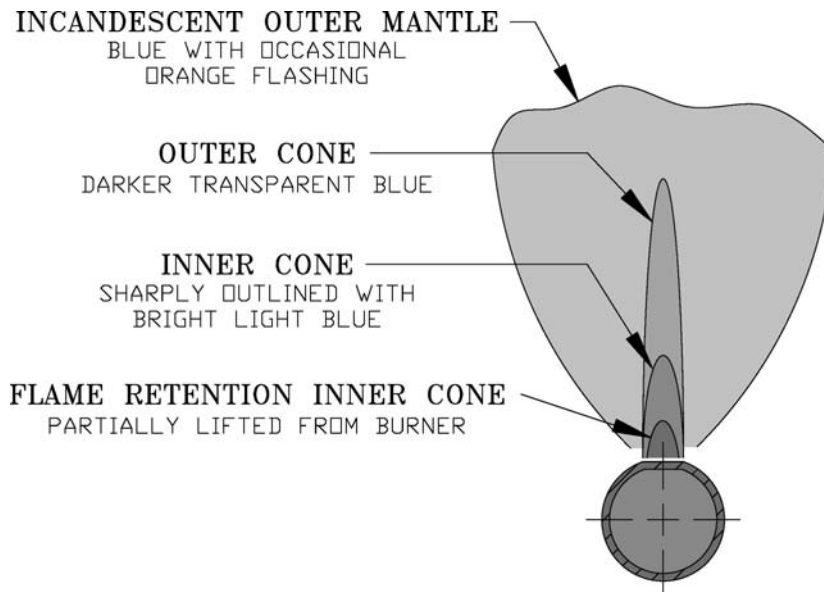

Figure 23: Main Burner Flame
G. Check main burner flame. See Figure 23. Flame should have clearly defined inner cone with no yellow tipping. Orange-yellow streaks should not be confused with true yellow tipping.